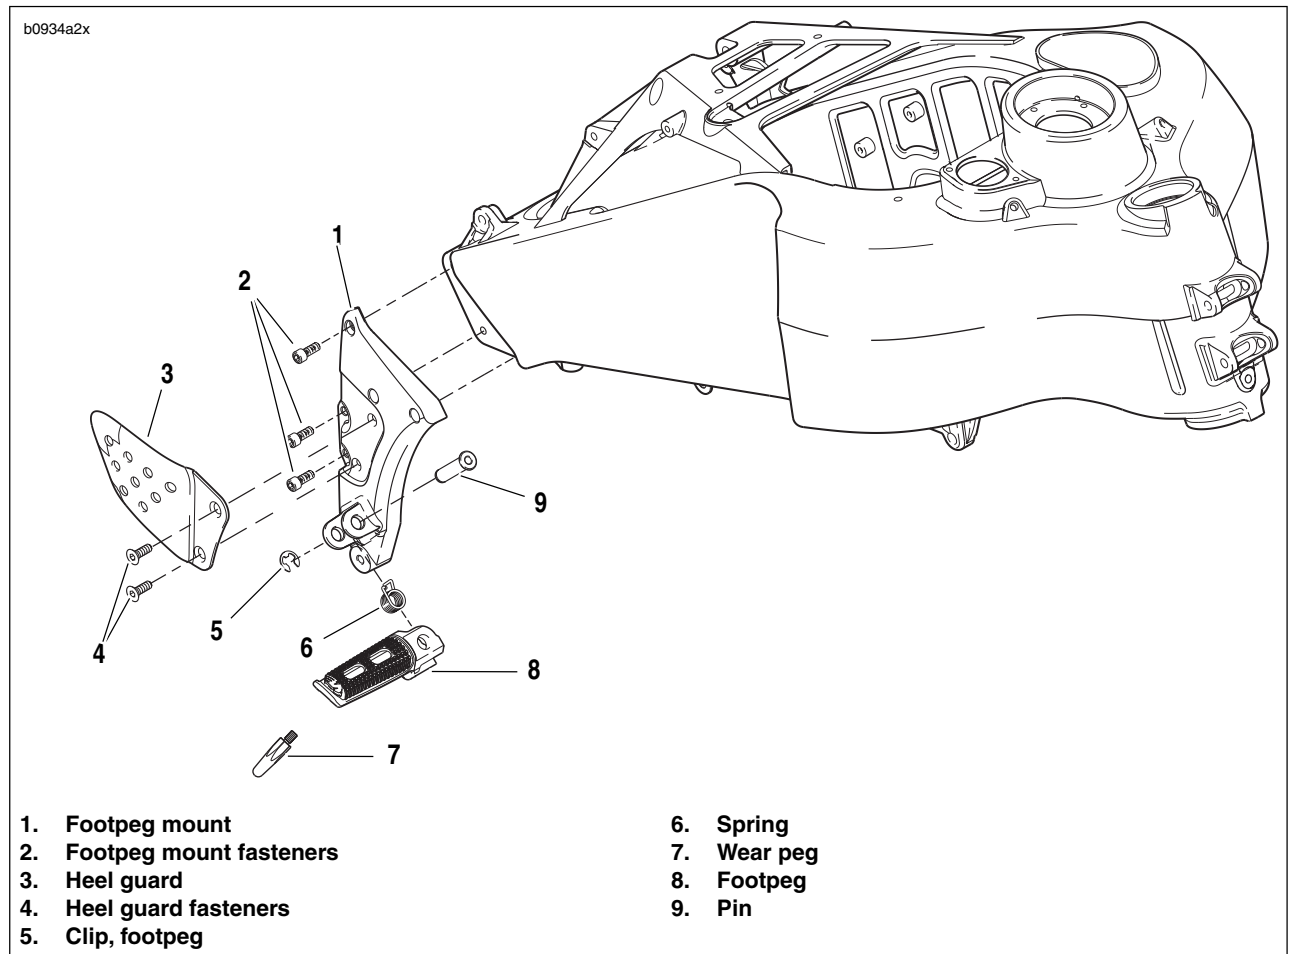

Figure 2-106. Rider Footpeg, Mount and Heel Guard Assembly
1. See Figure 2-106. Remove wear peg from end of footpeg assembly.
1. See Figure 2-106. Remove clip (5).
2. Remove footpeg pin (9).
3. Remove footpeg (8).
1. See Figure 2-106. Remove heel guard fasteners (4).
2. Remove heel guard (3).
1. See Figure 2-106. Remove footpeg mount fasteners (2).
2. Remove footpeg mount (1).
1. See Figure 2-106. Position footpeg mount (1).
2. Install footpeg mount with fasteners (2). Tighten to 108-132 **in-lbs** (12-15 Nm).
1. See Figure 2-106. Position heel guard (3) onto footpeg mount (1).
2. Install heel guard (3) with fasteners (4). Tighten to 72-96 **in-lbs** (8-11 Nm).
1. See Figure 2-106. Install clip (5).
2. Position footpeg (8) on to footpeg mount (1).
3. Install footpeg pin (9).
1. See Figure 2-106. Apply LOCTITE 272 (red) and tighten to 36-48 **in-lbs** (4-5 Nm).